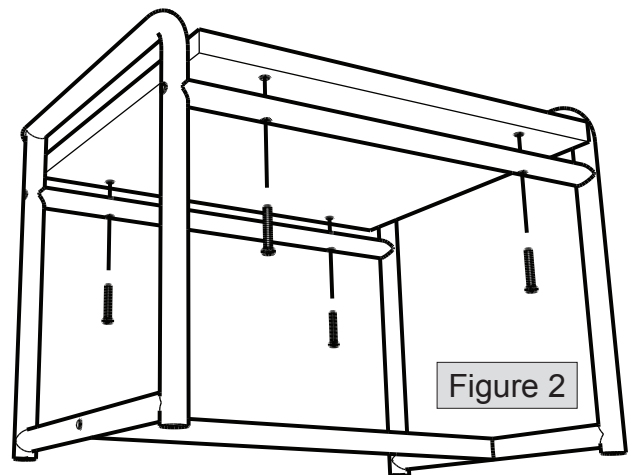

Figure 2
3. Place the tabletop on the upper cross tubes, align holes, and attach using Allen bolts, as shown in figure 2. Tighten bolts securely.